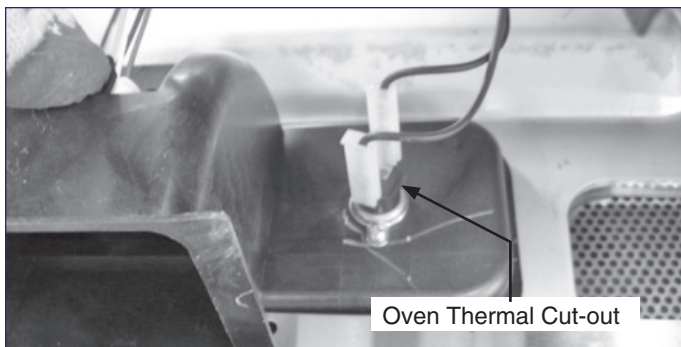

Figure 4-19. Oven Thermal Cutouts
5. Disconnect two wire leads. (See Figure 4-19)